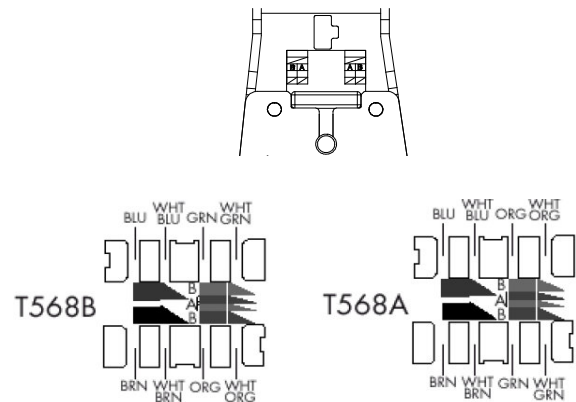

Fig.12
5.2.3. Lace the straight wires into the comb groove in the Termination Head following the jack wiring schematic (Fig 12).
2. There are color code labels on the inside of the tool frame for reference (Fig. 12)